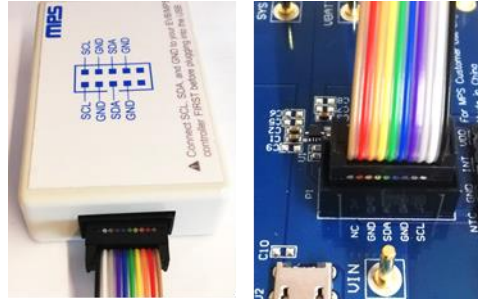

Figure 6: EVB to MPS I2C Communication Interface Wire Connection
2. Connect SCL, SDA, and GND (see Figure 6). If necessary, refer to the datasheet for further clarification.